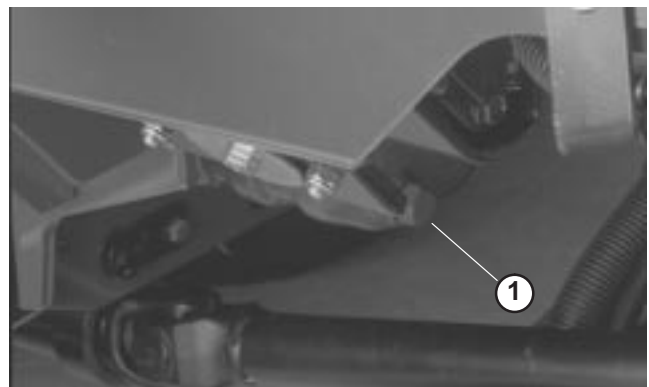

Figure 47
1. Remove drain plug and let oil flow into drain pan (Fig. 47). When oil stops, install drain plug.